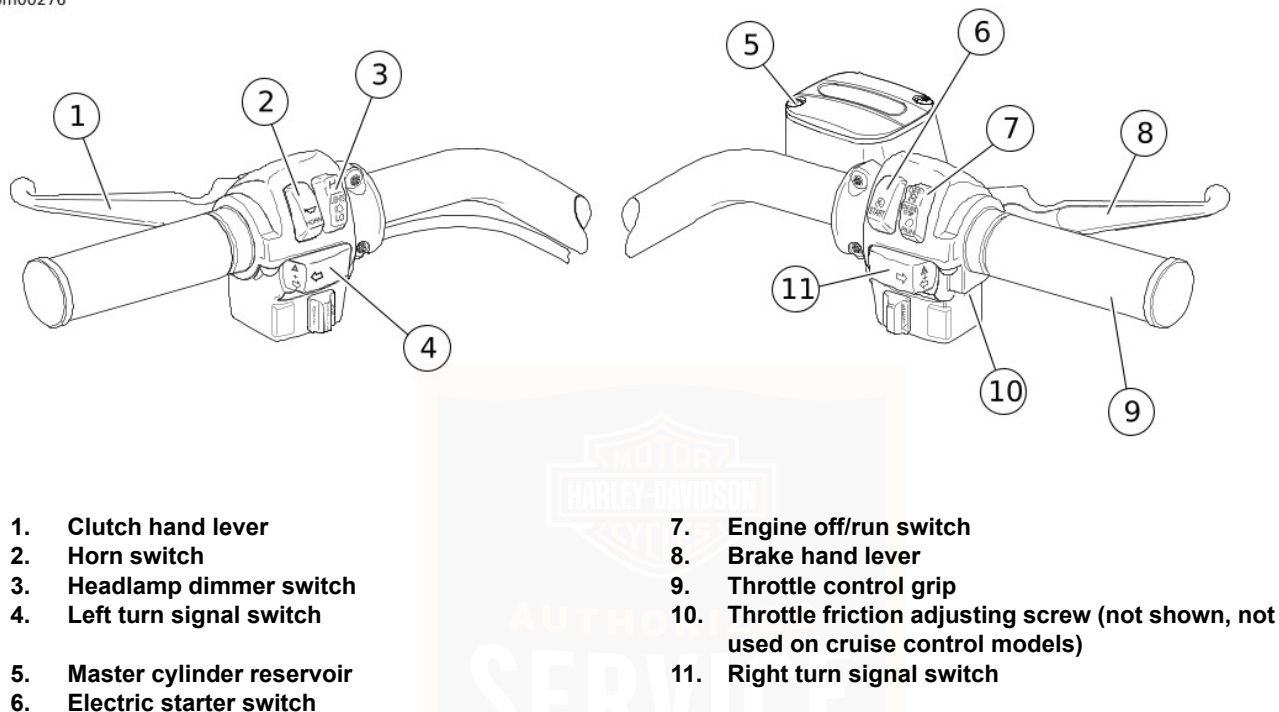

Figure 5. Basic Handlebar Controls: FLHRC Shown (typical)
See Figure 5. The electric starter switch is located on the right handlebar control group. See OPERATION > STARTING THE ENGINE (Page 129) for detailed operation procedures.
See Figure 5. The engine off/run switch (7) turns the ignition power ON or OFF. The engine off/run switch is located on the right handlebar control. Push the top portion of the engine off/run switch to turn off ignition power and shut the engine off. Push the bottom portion of the engine off/run switch to turn on ignition power.
See Figure 5. The throttle control grip (9) is located on the right handlebar control and is operated with the right hand.
See Figure 5. The clutch hand lever (1) is located on the left handlebar and is operated with the fingers of the left hand.
See Figure 5. The horn is operated by pushing on the horn switch (2) located on the left handlebar control group.
See Figure 5. The headlamp dimmer switch (3) is located on the left handlebar. The switch has two positions to activate the headlamps high or low beams.
See Figure 5. Each handlebar control group contains a turn signal switch.